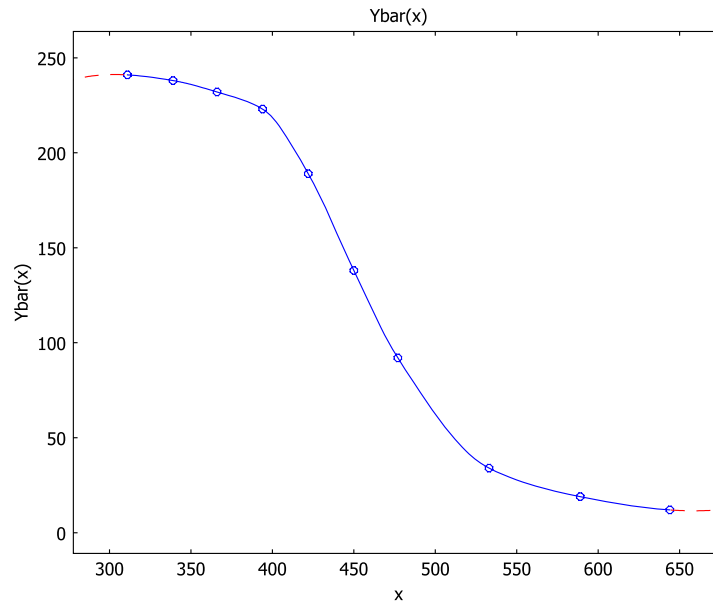

Figure 4: Yield stress (MPa) vs. temperature (K) for 6061-T6 aluminum.
Here  $\mu$  is the friction coefficient,  $r_p$  denotes the pin radius,  $\omega$  refers to the pin's angular velocity (rad/s), and  $\bar{Y}(T)$  is the average shear stress of the material. As indicated, the average shear stress is a function of the temperature; for this model, you approximate this function with an interpolation function determined from experimental data given in Ref. 1 (see Figure 4).
- 6 When finished, click **Plot** to view the resulting interpolation function (Figure 4), then click **OK** to close the **Functions** dialog box.